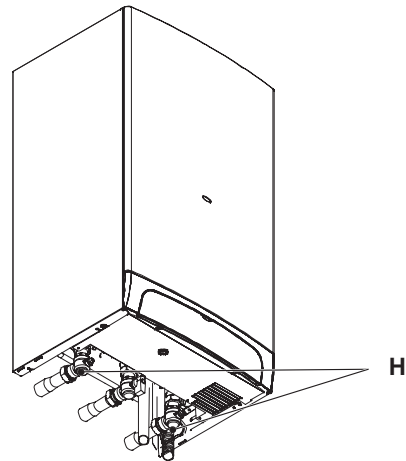

Figure 2.7
- 1 Close the c.h. circuit flow and return cocks H (Figure 2.7).